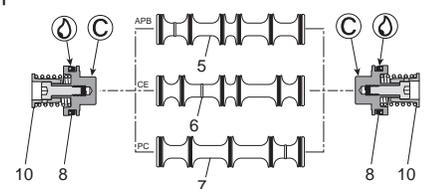

Figure 1
Refer to Figure 1 to aid with disassembly and reassembly.
1. Remove Valve from base by removing Body to Base Screws (22).
2. Remove Coil Nut(s) (16), Coil(s) (15 / 17) and Coil to End Cap Gasket(s) (4).
3. Remove Solenoid Pilot Operator(s) (14), if applicable, by removing the two Screws (18).
4. Remove Pilot Bypass Plate (21), if applicable, by removing the two Screws (13).
5. Remove Pilot Select Gasket(s) (2).
6. Remove each End Cap (12 / 19) by removing the 4 Screws (13).
7. Remove the Pistons (9 or 10), Spool Return Spring (20), if applicable, and the Spool (3, 5, 6 or 7), being careful not to scratch the valve body bore.
9. Apply a light coating of grease to each part noted in Figure 1 and the mating sealing surface of each of these parts.
\* See Figure 1